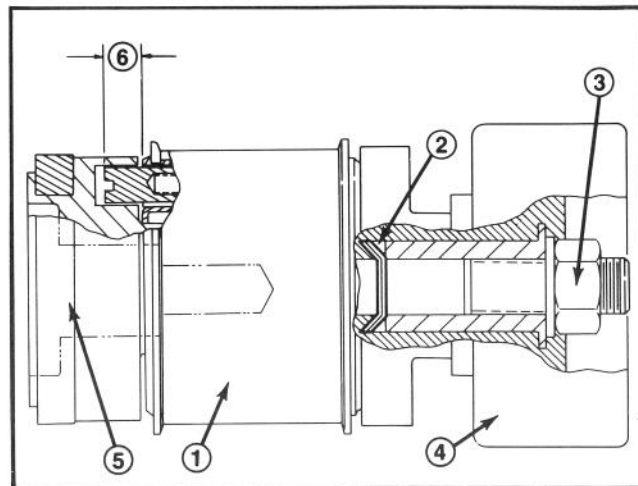

Figure 16
**IMPORTANT:** If the clutch mechanism has separated due to removal of the nut and washer (step 13A), ensure the belleville washers are properly installed; refer to figure 16.